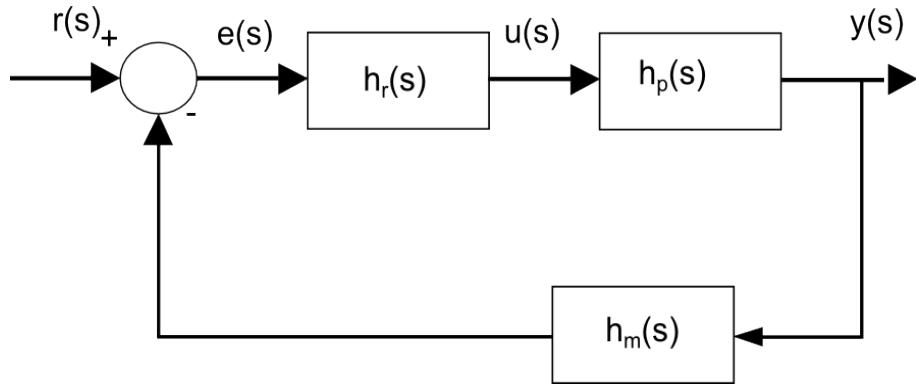

Figure 9: A block diagram of a PI controller for a DC motor
- Design a PI controller for the system as is shown in figure 9 using the transfer function given in equation 4.